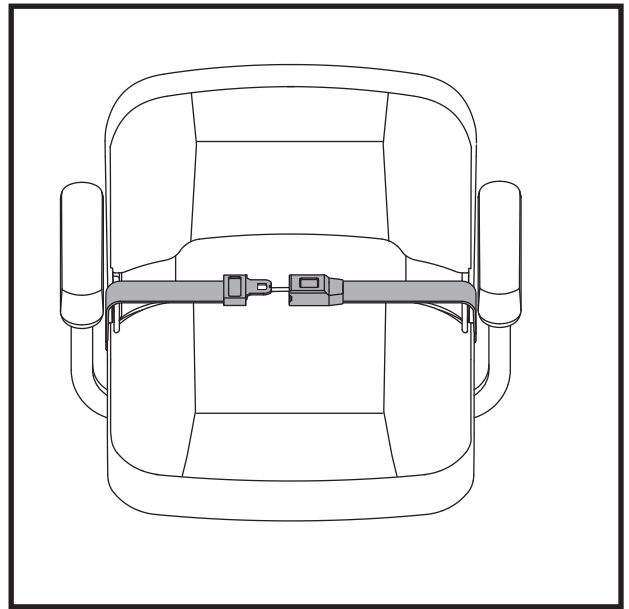

Figure 24. Positioning Belt - Metal Tab Style
1. Insert the metal tab on the right side of the belt into the plastic housing on the opposite strap until you hear a “click.” See figure 24.